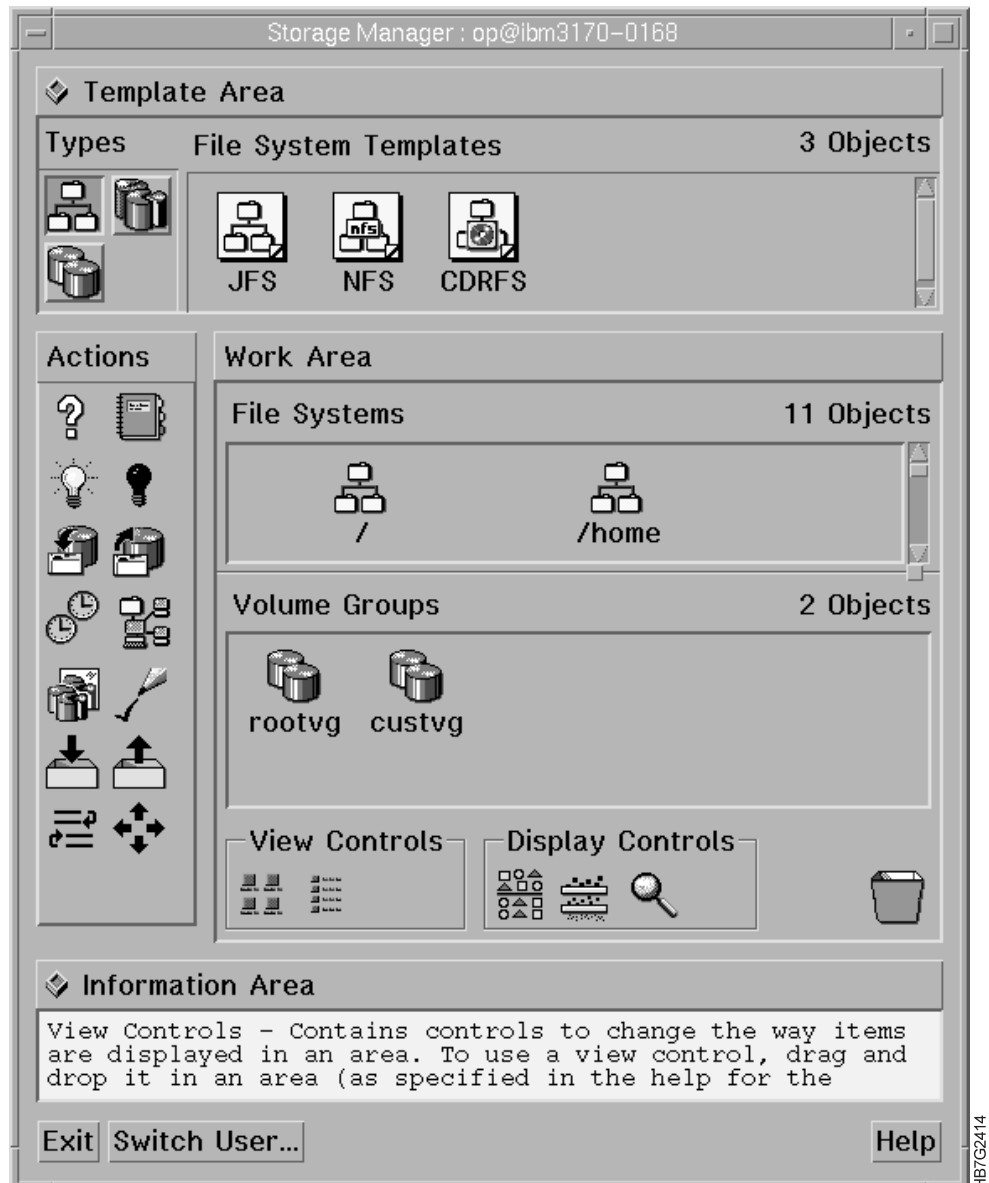

Figure 107. Storage Manager Window
- 4** Double-click on the **Storage Manager** icon to open the **Storage Manager** window, as shown in Figure 107 on page 148.